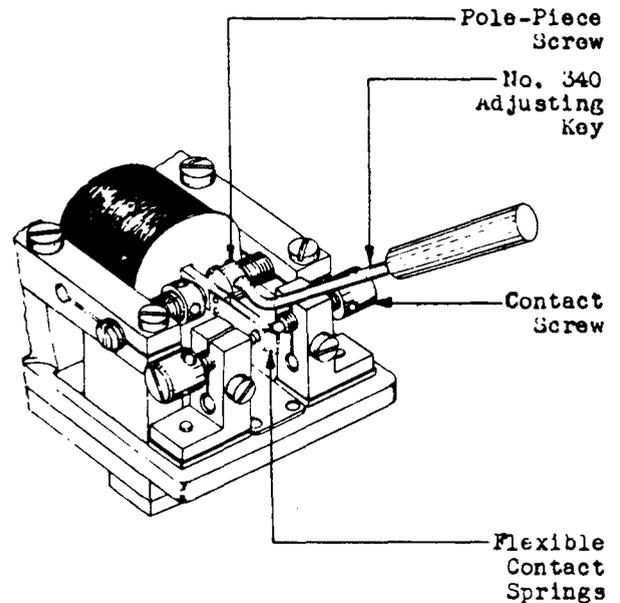

Fig. 10 – Method of Adjusting Pole-Piece Screw
(11) **Vibrating and Bias:** Advance the pole-pieces gradually, maintaining equal air-gaps on each side of the armature, using the No. 340 adjusting key as shown in Fig. 10, until the relay meets the vibrating and bias requirements covered in the section applying.
(12) If the relay fails to meet the bias and vibrating requirements simultaneously it is due to a mechanical bias in the relay. Loosen the armature clamping screws and the right-hand yoke mounting screws, with the 4" regular screwdriver and remove the armature. Check to see that the armature is straight, and if necessary, straighten it. Replace the armature and check for requirements 2.05 (Armature and Spool Clearance) and 2.06 (Contact Alignment) and readjust as covered in 3.05 and 3.06. Repeat the adjustment made in (8) to (11), above. Check that the sensitivity requirement is met.
(16) **Bias**—After adjusting as covered in (8), (9) and (10) advance both pole-piece screws gradually with the No. 340 adjusting key as shown in Fig. 10 maintaining approximately equal air-gaps on each side of the armature, until the relay meets the bias requirement covered in the section applying. Check that the sensitivity requirements are met.
(17) **Sensitivity Operate** — If the relay fails to meet the sensitivity operate requirement, it is an indication that the pole-piece screws are too close together. Back off the pole-piece screws with the No. 340 adjusting key as shown in Fig. 10 till the sensitivity operate requirement is met, taking care to maintain zero bias.
(19) **Contact** — If the contact requirement is not met it may be an indication of dirty contacts, large contact separation, poor connection in the contact circuit, unsatisfactory overall adjustment or weak magnets on the relay. Remagnetize weak magnets as covered in 3.002. Clean the contacts and repeat the adjustments outlined in (8), (9) and (10) and readjust for bias and sensitivity as covered in (16), (17) and (18).
(20) Place the 484A magnetic shunt on the relay and repeat (3), (4) and (5) as an additional check on the mechanical condition of the relay. If in (5) upon removal of shunt the bias now exceeds the test limit, or if after correcting the bias the sensitivity requirements are not met it is usually an indication that the armature is defective and requires replacement as covered in 3.05(10), after which readjust the relay as outlined in (8) to (10) and (16) to (19) inclusive. Then repeat the tests outlined in this paragraph.